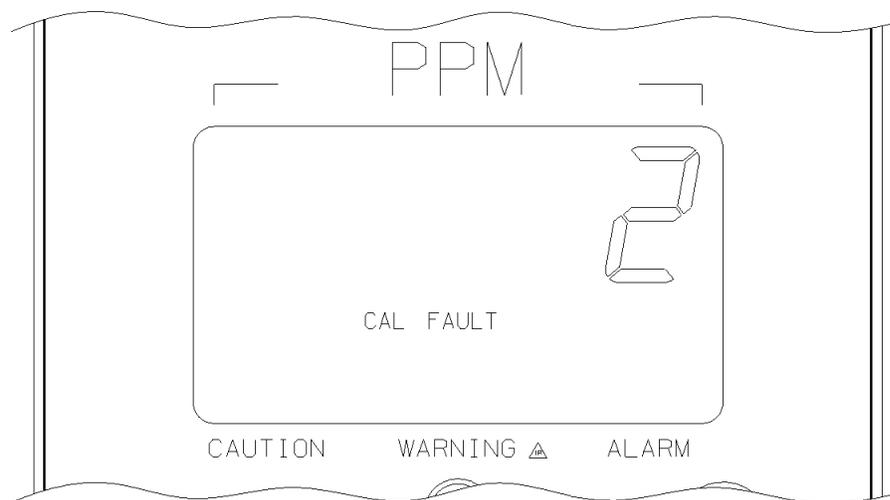

Fig. 29 Calibration Fault Flag
- (7) If a **CAL FAULT** flag appears on the unit (Fig. 29 "Calibration Fault Flag"), this indicates: